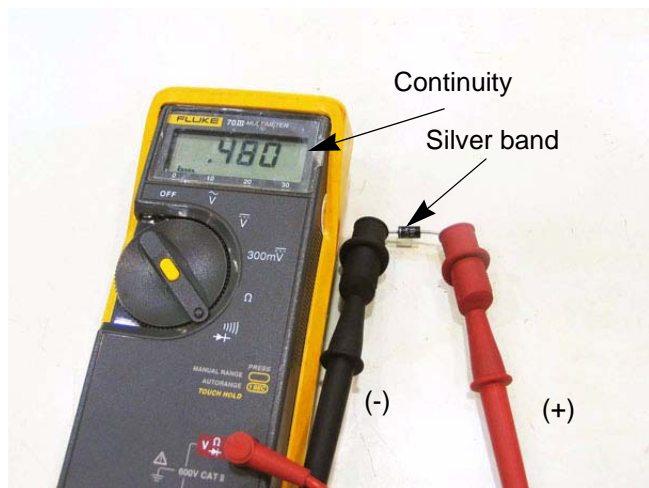

Figure 7.63
5. There should be continuity. See Figure 7.63.